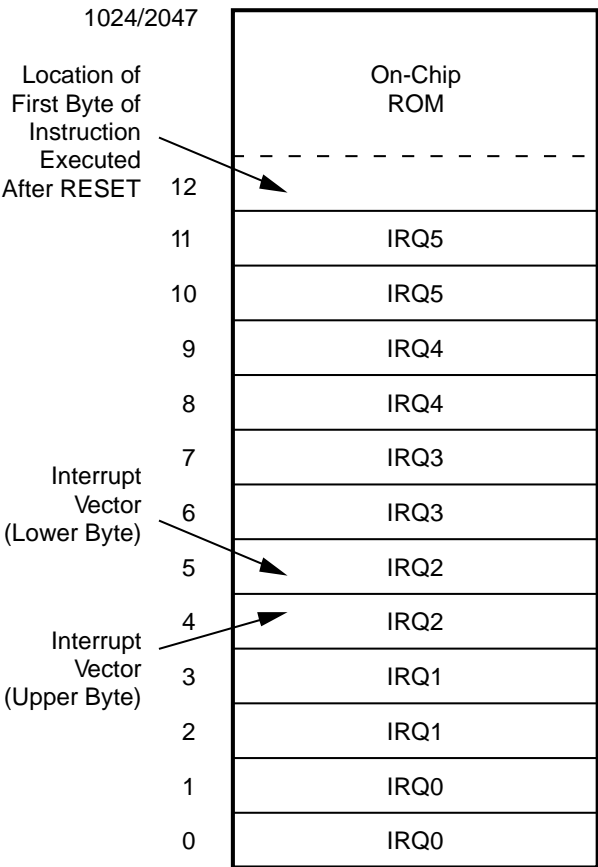

Figure 11. Program Memory Map
**Program Memory.** The Z8 addresses up to 1024,2048 bytes of internal program memory (Figure 11). The first 12 bytes of program memory are reserved for the interrupt vectors. These locations contain six 16-bit vectors that correspond to the six available interrupts. Bytes 0-1023/0-2047 are on-chip mask programmable ROM.